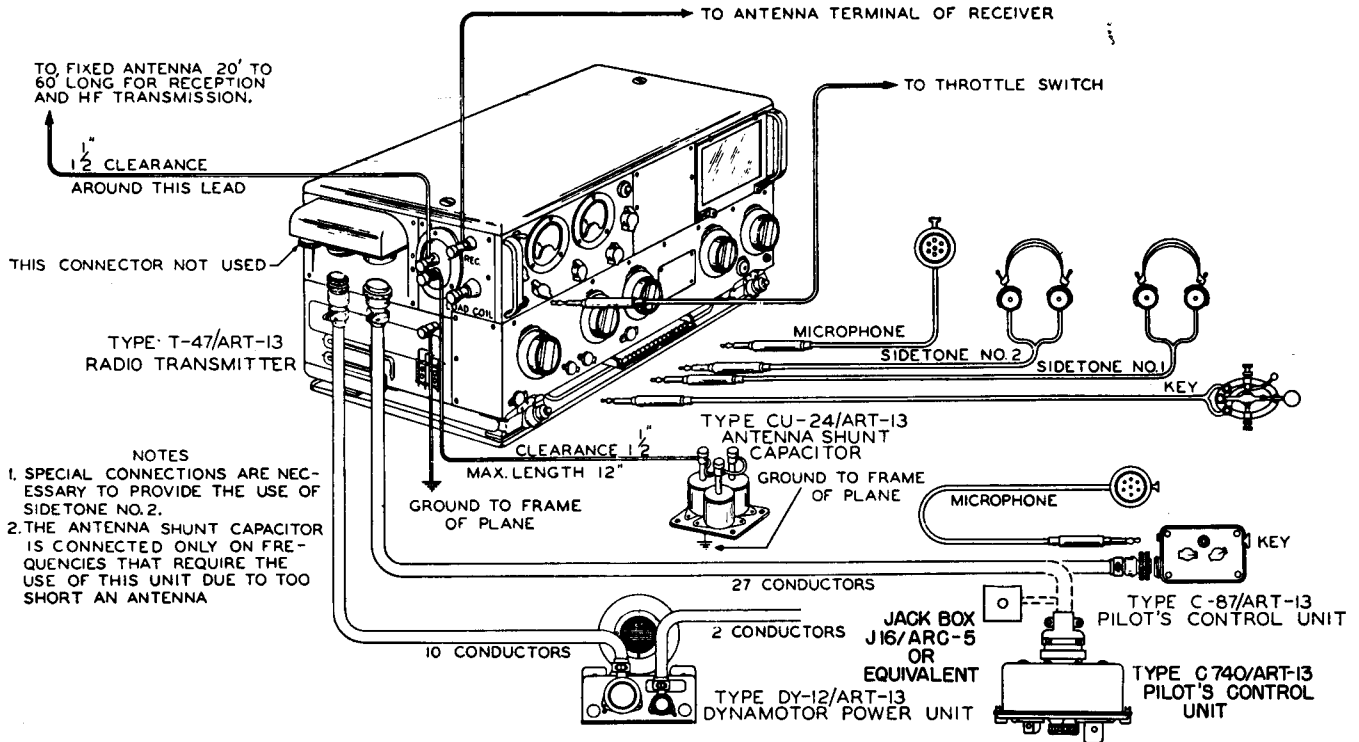
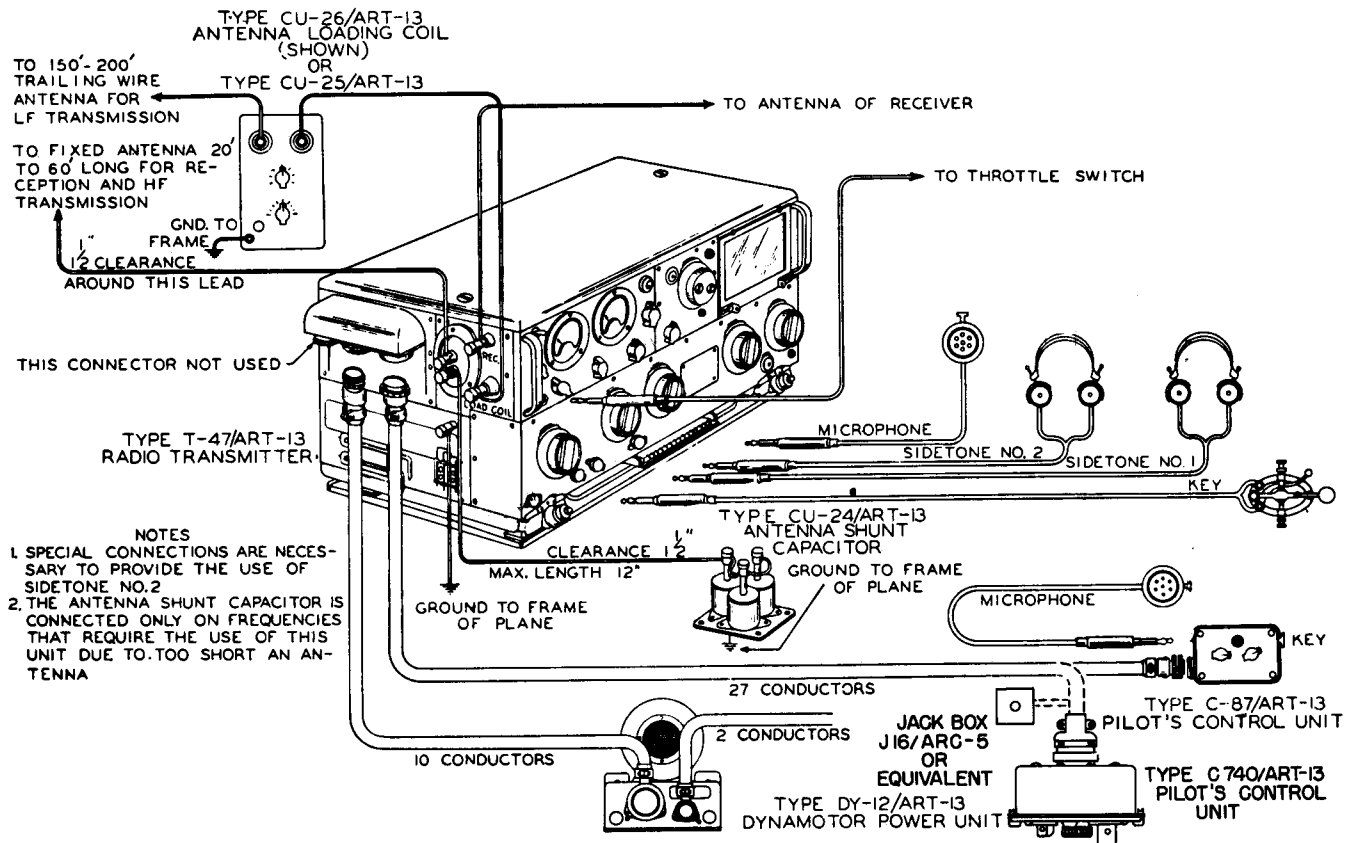

Figure 2-1. Model AN/ART-13 High Frequency Installation Diagram
Figure 2-2. Model AN/ART-13 Installation Diagram Including Special Low Frequency Units
(1) Figure 2-2. shows an AN/ART-13 installation with all of the accessories necessary for transmission on any frequency within the frequency range of the transmitter and with the transmitter control from either the transmitter panel or from a remote position. If the fixed antenna has sufficient capacity the Type CU-24/ART-13 Antenna Shunt Capacitor Unit may be omitted from the installation. Figure 2-1. shows a high frequency AN/ART-13 installation which may be used if low frequency (200 kc to 1500 kc) emission is not required.
(2) The first step in preparing the transmitter for installation is to check the vacuum tubes and calibration crystal for placement in the proper sockets. All tubes and crystal unit can be installed from the top of the transmitter unit. To remove the transmitter cabinet cover, loosen the cover holddown screws and lift the cover upward.
*(Figure 2-1. and Figure 2-2. page 2-0.)*
(1) Microphones, earphones, telegraph key and the throttle switch connector cord and associated plugs are not supplied as a part of this equipment.
(2) The transmitter unit, the antenna load coil and the antenna shunt capacitor unit need not be mounted near the pilot, but the three units